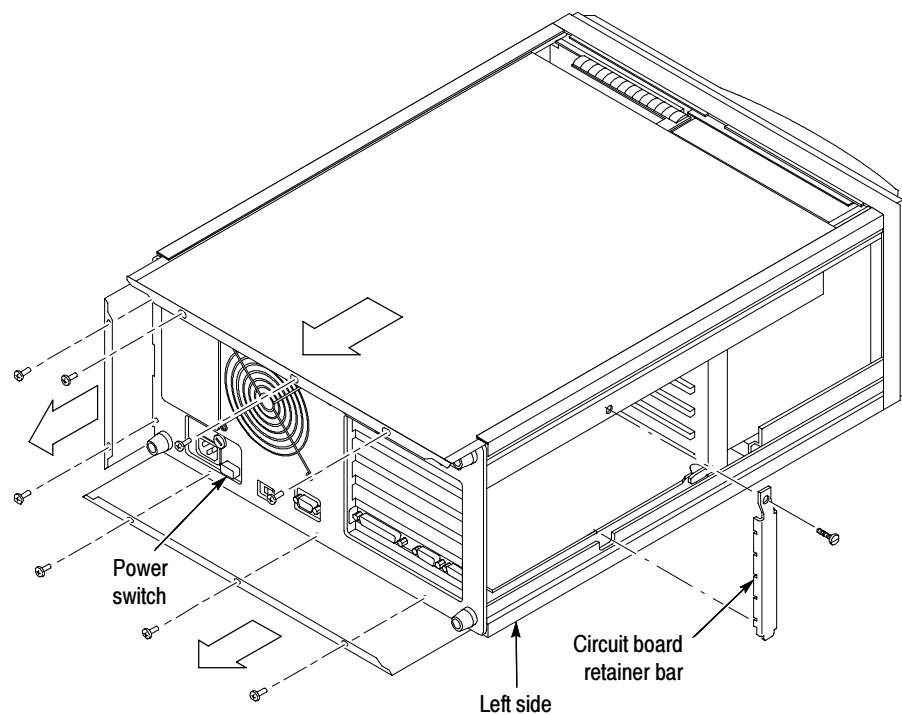

Figure 1: Cover panels and circuit board retainer bar removal
WARNING. *Dangerous shock hazards may be exposed when the measurement set covers are removed. Before proceeding, ensure that both power switches are in the off position (see Figures 1 and 2), and then disconnect the measurement set from the power source.*
1. Remove the screws from the edge of the cover panels. See Figure 1.
2. Remove the cover panels by sliding them carefully to the rear of the measurement set and out of the chassis grooves as shown in Figure 1.
1. Position the measurement set so that you face the right side. (See Figure 1.)
1. Reinstall the removed cover panels as shown in Figure 1 on page 13.